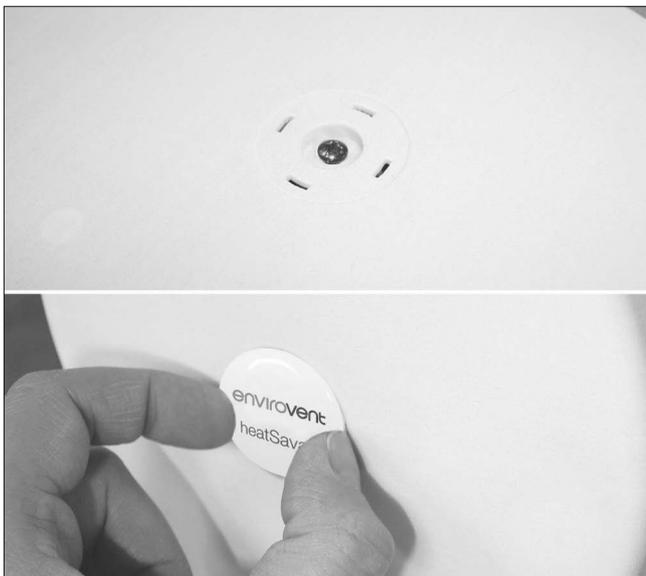

Fig.14A
- 14 Click and shut the front cover, and fix it in place using the screw. Place the fan badge on the front cover (Fig.14A).